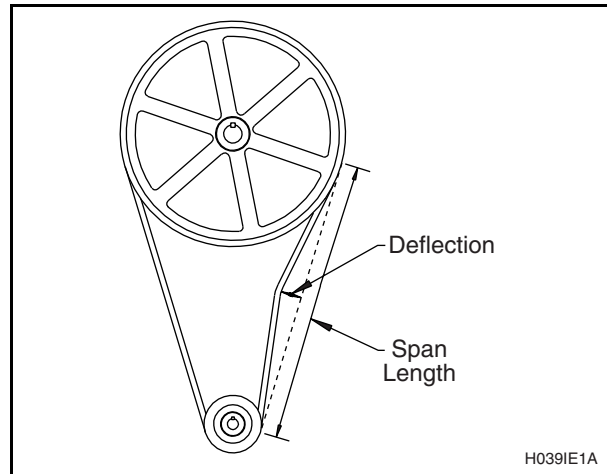

Figure 51
- d. For **3-speed and variable-speed models only**, verify that V belts are properly tensioned by applying a set force to the belt and measuring the deflection to determine the belt tension. See the tables below for the acceptable belt tension ranges. Belt tension measurements should be taken as close to the center of the belt span as possible. See Figure 51.